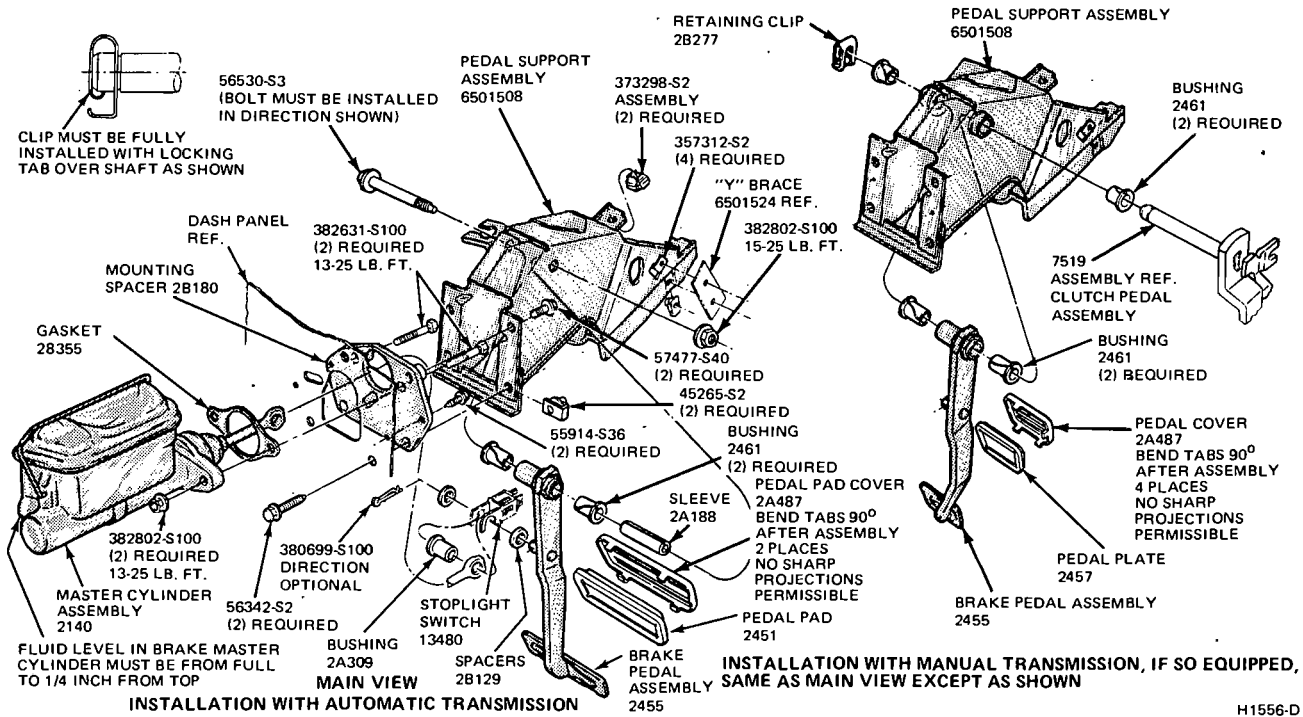

FIG. 11 Master Cylinder and Brake Pedal Installation—Non-Power Brake—Torino and Montego
5. Slide the master cylinder or booster push rod and the nylon washers and bushing off from the brake pedal pin (Figs. 11, 14 and 16).
2. Position the brake pedal to the support bracket, then install the clutch pedal and shaft assembly through the support bracket and brake pedal assembly. Install the spring clip (Figs. 11, 14 and 16).
5. Install the inner nylon washer, the master cylinder or booster push rod, and the bushing on the brake pedal pin. Position the switch so that it straddles the push rod with the switch slot on the pedal pin and the switch outer hole just clearing the pin. Slide the switch completely onto the pin, and install the outer nylon washer as shown in Figs. 11, 14 and 16. Secure these parts to the pin with the self-locking pin.
2. Remove the self-locking pin and slide the stop light switch off the brake pedal pin just far enough for the switch outer hole to clear the pin. Then lower the switch away from the pin. Slide the master cylinder or booster push rod and the nylon washers and bushing off from the brake pedal pin (Figs. 11, 12 and 14).
1. Apply a coating of SAE 10 engine oil to the bushings and locate all the bushings in their proper places on the pedal assembly and pedal support bracket (Figs. 11, 12 and 14).